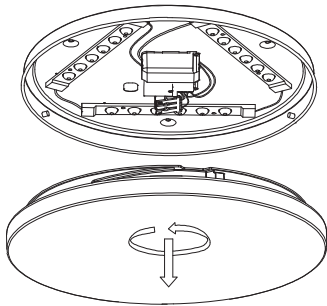

fig. 1
1. **fig. 1:** If necessary, remove the dome from the base plate (bayonet lock).